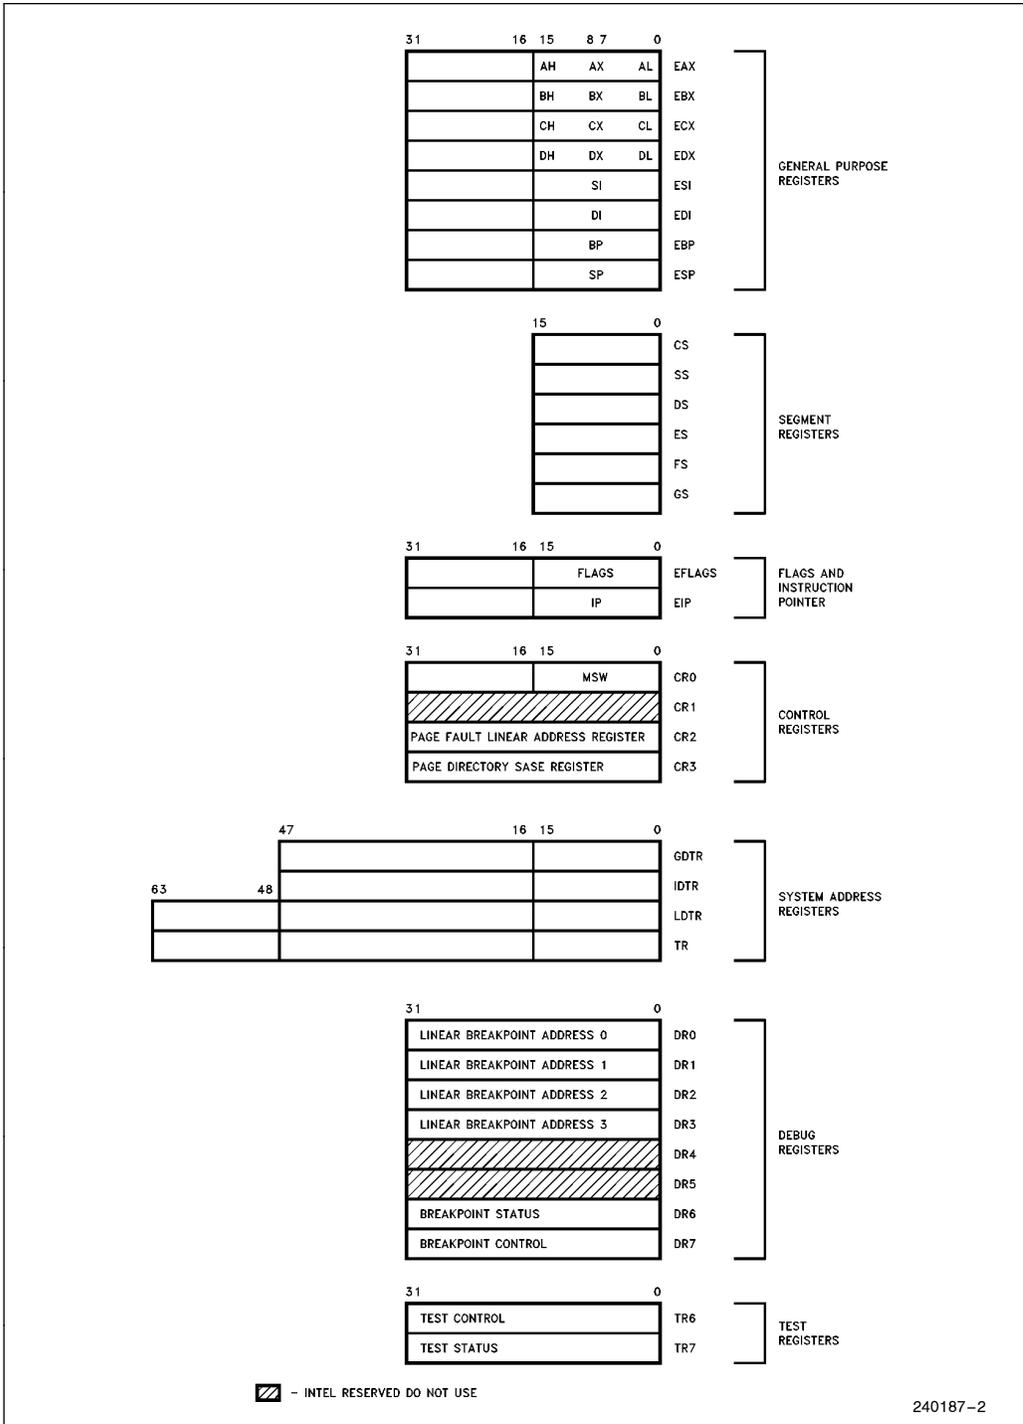

Figure 2.1. Intel386™ SX Microprocessor Registers
The Intel386 SX Microprocessor has thirty-four registers as shown in Figure 2-1. These registers are grouped into the following seven categories:
**Flags and Instruction Pointer Registers:** The two 32-bit special purpose registers in figure 2.1 record or control certain aspects of the Intel386 SX Microprocessor state. The EFLAGS register includes status and control bits that are used to reflect the outcome of many instructions and modify the semantics of some instructions. The Instruction Pointer, called EIP, is 32 bits wide. The Instruction Pointer controls instruction fetching and the processor automatically increments it after executing an instruction.
The Intel386 SX Microprocessor has three control registers of 32 bits, CR0, CR2 and CR3, to hold the machine state of a global nature. These registers are shown in Figures 2.1 and 2.2. The defined CR0 bits are described in Table 2.2.